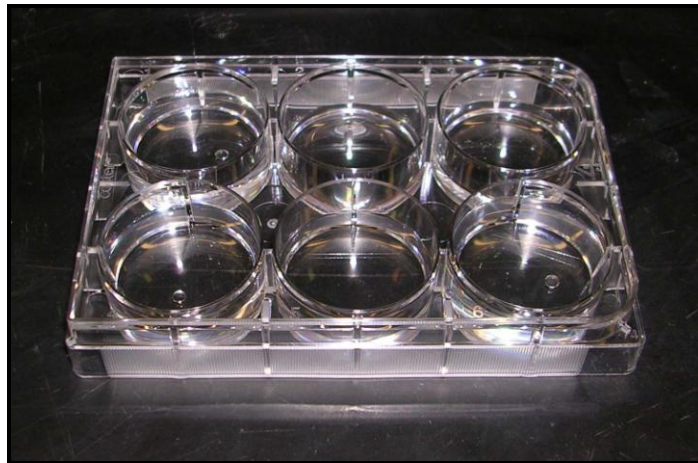

Figure 1. 6-well tissue culture plate.
2. Place each coverslip in sterile 6-well tissue culture plates (Figure 1).